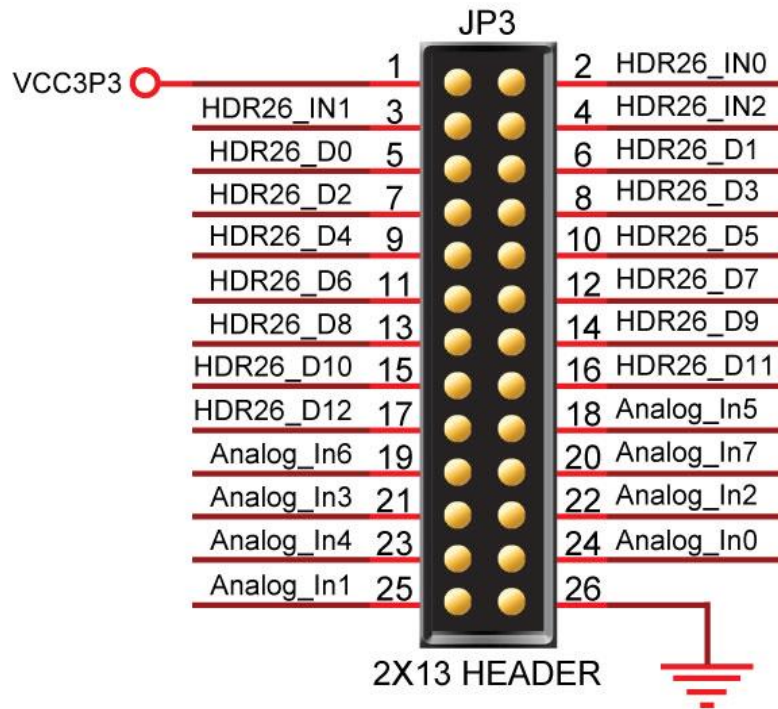

Figure 8-4 2X13 Header
**Figure 8-4** depicts the pin arrangement of the 2X13 header. Connect the trimmer to the ADC channel which is selected by the DIP Switches (Analog\_In0 ~ Analog\_In7).